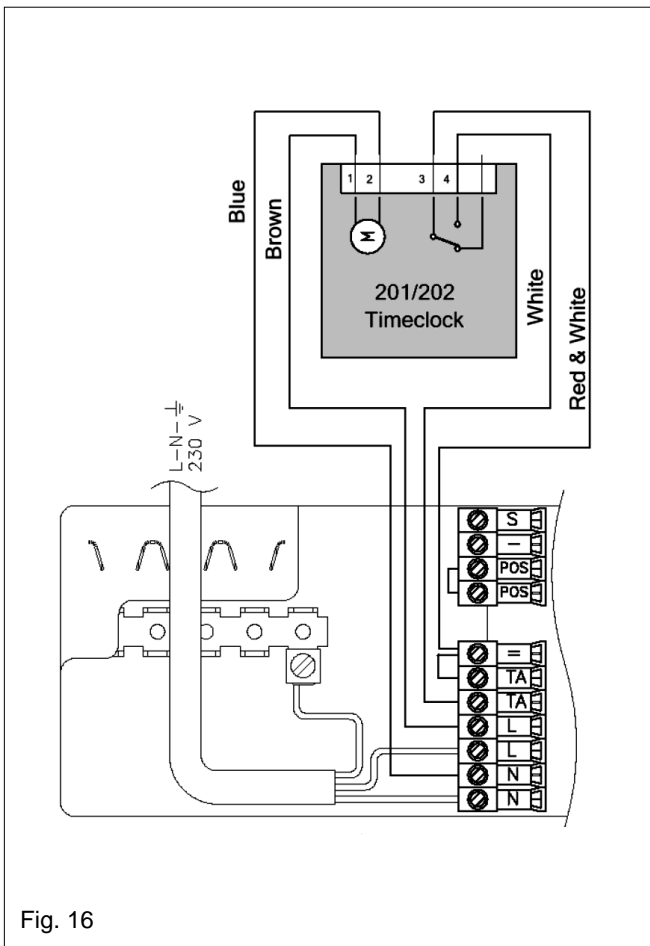

Fig. 16
4.7.3 CONNECTING THE MAINS (230V) INPUT (see fig. 16)
Connect the supply cable wires (LIVE, and NEUTRAL) to their corresponding terminals on the appliance terminal block. Connect the EARTH wire to the EARTH block (see fig. 16) ensuring that it's left slightly longer than the others, this will prevent strain on the EARTH wire should the cable become taut.
- Using the clock wiring harness supplied in the accessory pack, connect the 4-wires to the clock as shown in fig 16.